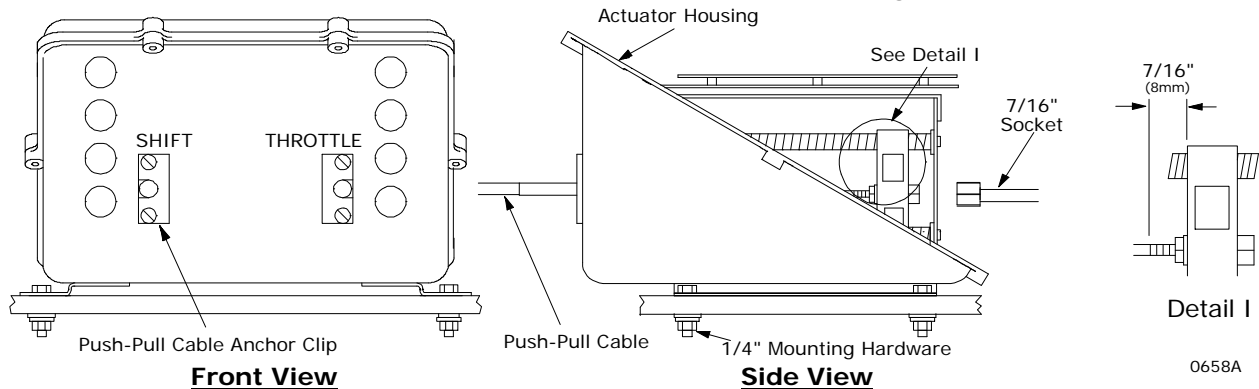

Figure 14
- D) Connect the push-pull cables to the MicroCommander Actuator (See Figure 14). Remove the #10-32 jam nut and the two rubber seals from the push-pull cable end that is to connect to the Actuator. Reinstall the #10-32 jam nut. Remove one cable anchor clip screw from the Actuator housing and swing the cable clips clear. Connect the shift cable and throttle cable to the proper hex nut. See label on the Actuator. (See Figure 14, Detail I) Use a